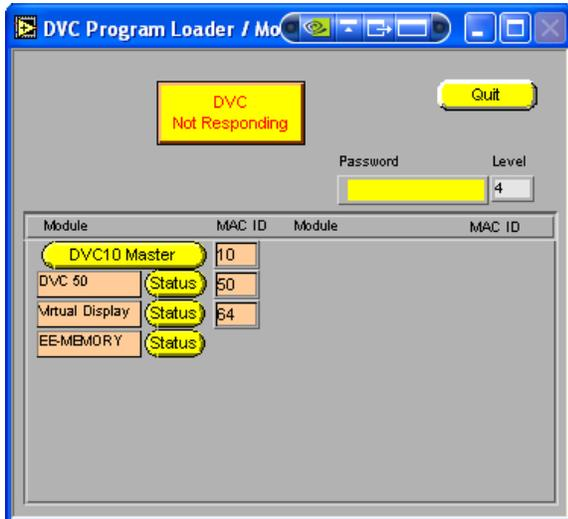

Figure 1
11. On the Main Screen, Figure 1 enter the word "victory" into the password field. The password level should change to 4.